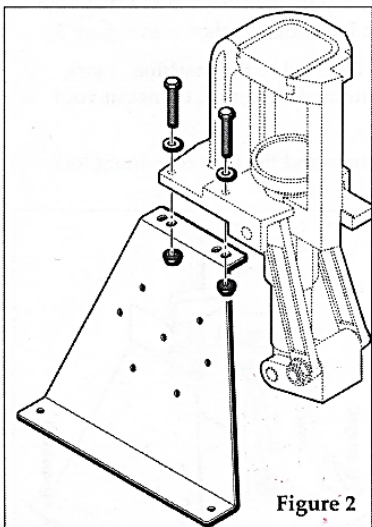

Figure 2
**Step 1** Install a Machine Mounting Bracket on the left side of the RL550B/AT500 Frame using two short bolts, two washers and two lock nuts as shown in Figure 2.